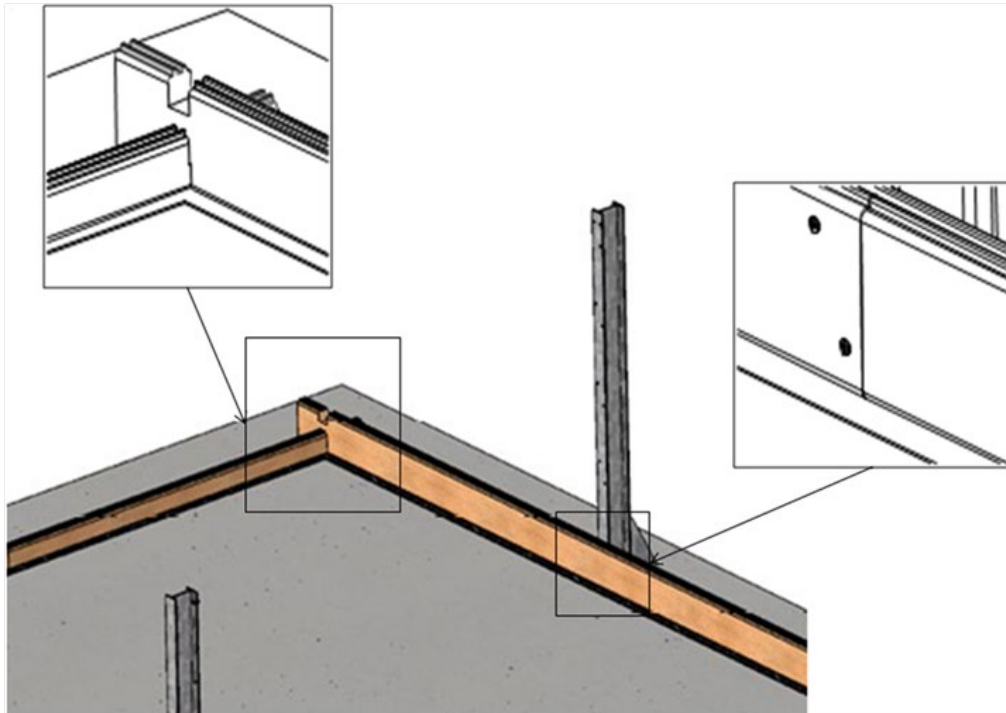

Figure 10 – Screwing the slats together
- referring to *Figure 10*, screw the slats together using 2 screws per pair of slats in each of the 10 rows, that is 80 countersunk screws 5 × 40 A4 SS torx threaded over 25 mm (bag C) ;